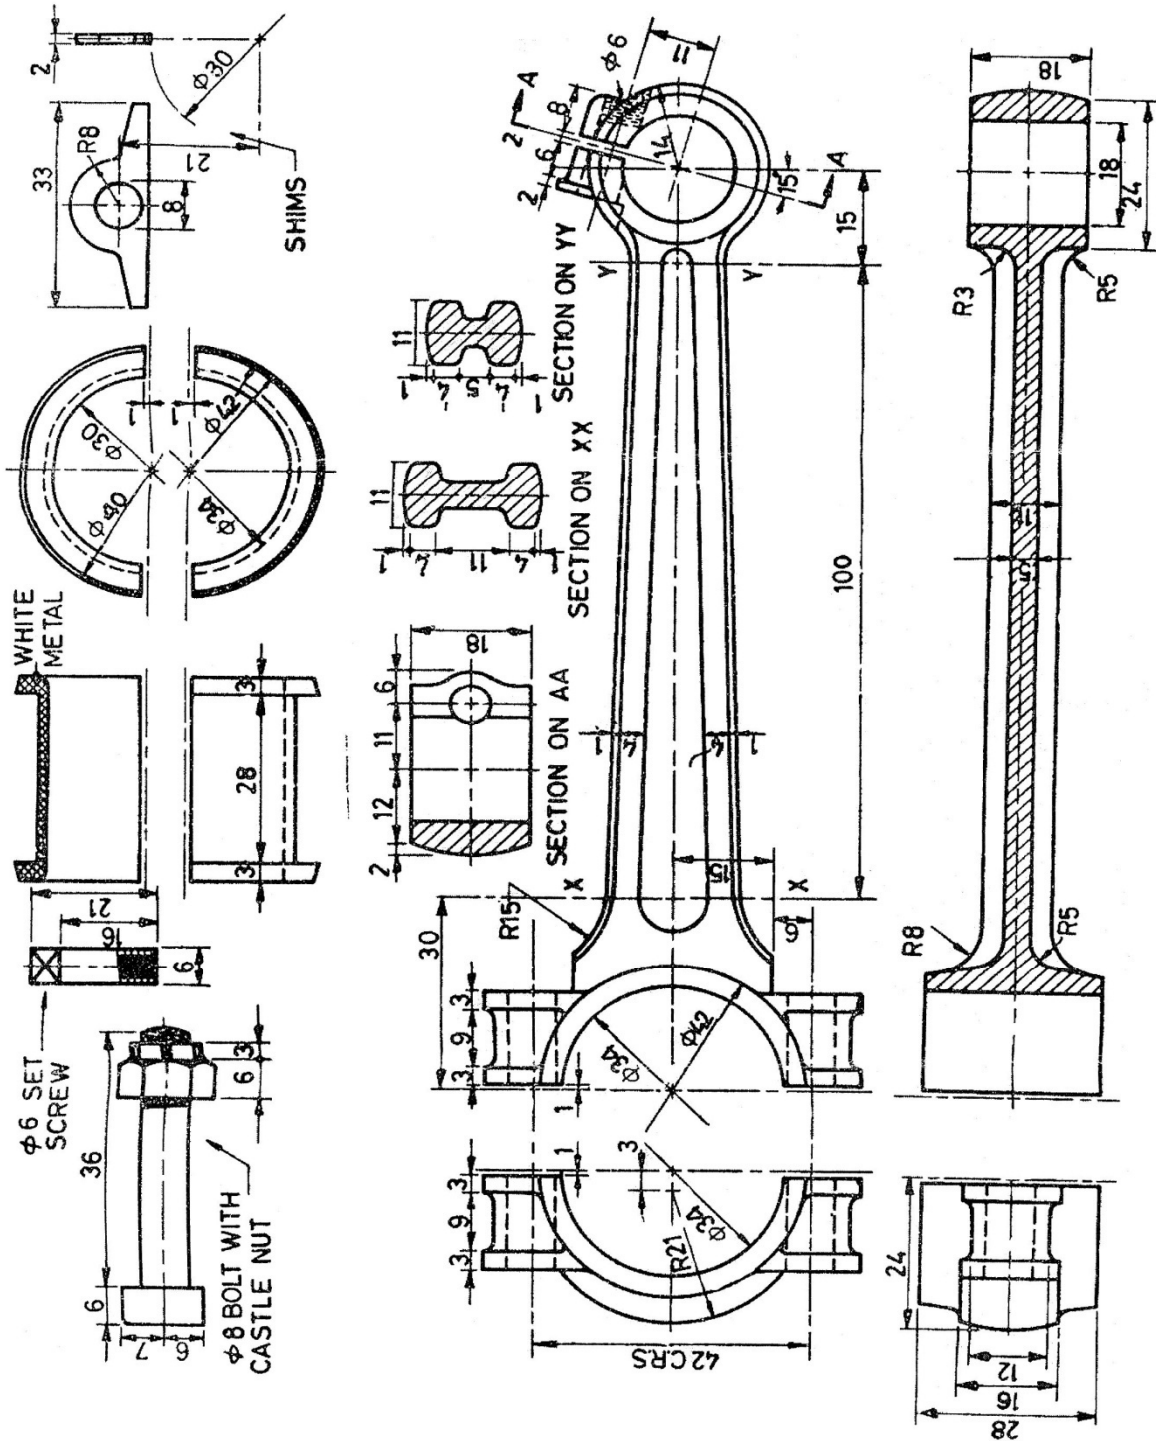

Fig. 2 Petrol Engine Connecting Rod
8. Assemble the parts of a Connecting rod given in Fig.2 and draw the following views :